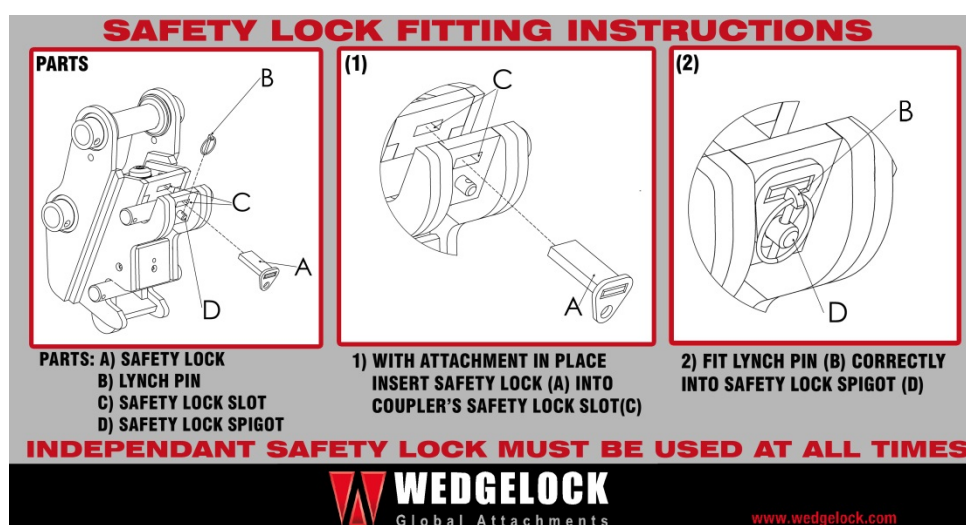

Fig 2.2.2
2. The “Up-Lock” style inserts from below the c-section through the safety lock slot. The retention of the up-lock is by means of inserting a lynch pin through the safety lock spigot. (Fig 2.2.2)